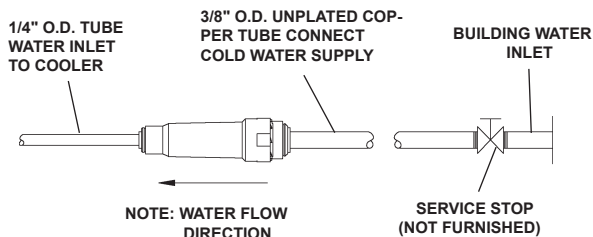

FIG. 1
5. **Remove bottom access panel** from fountain basin and save the screws. Install the fountain to the back panel using (4) 5/16" x 3/4" long screws and washers (provided) thru holes in back panel. Tighten securely.
7. **Make water supply** connections from service stop to the 3/8" O.D. unplated copper tube coming out of the fountain strainer (See Fig. 1). Turn on water supply and check for leaks. Newly installed water supply line should be insulated after leak check is completed. **DO NOT SOLDER TUBES INSERTED INTO THE STRAINER AS DAMAGE TO THE O-RINGS MAY RESULT.**